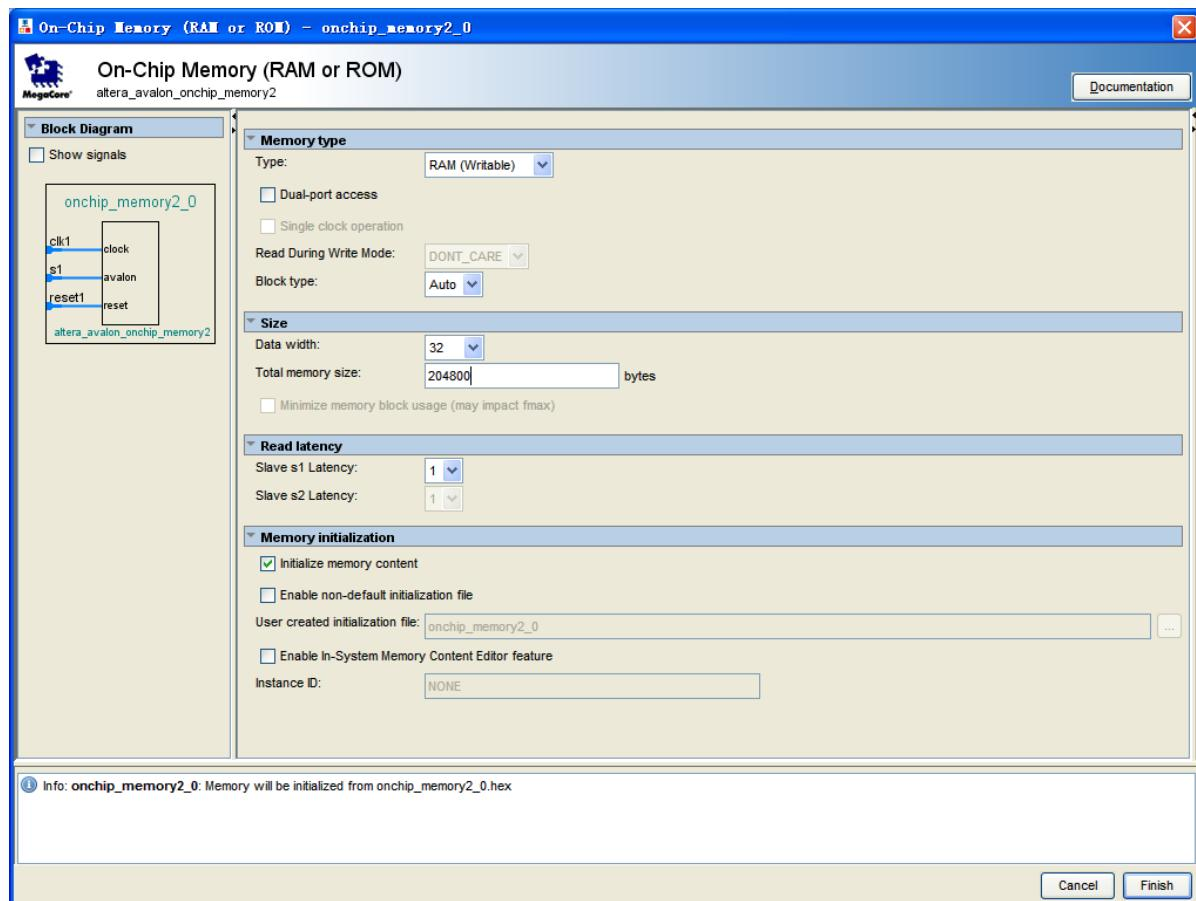

Figure 1-28 Update Total memory size
17. Modify **Total memory size** to **204800** as shown in Figure 1-28. Click **Finish** to return to the window as in Figure 1-29.